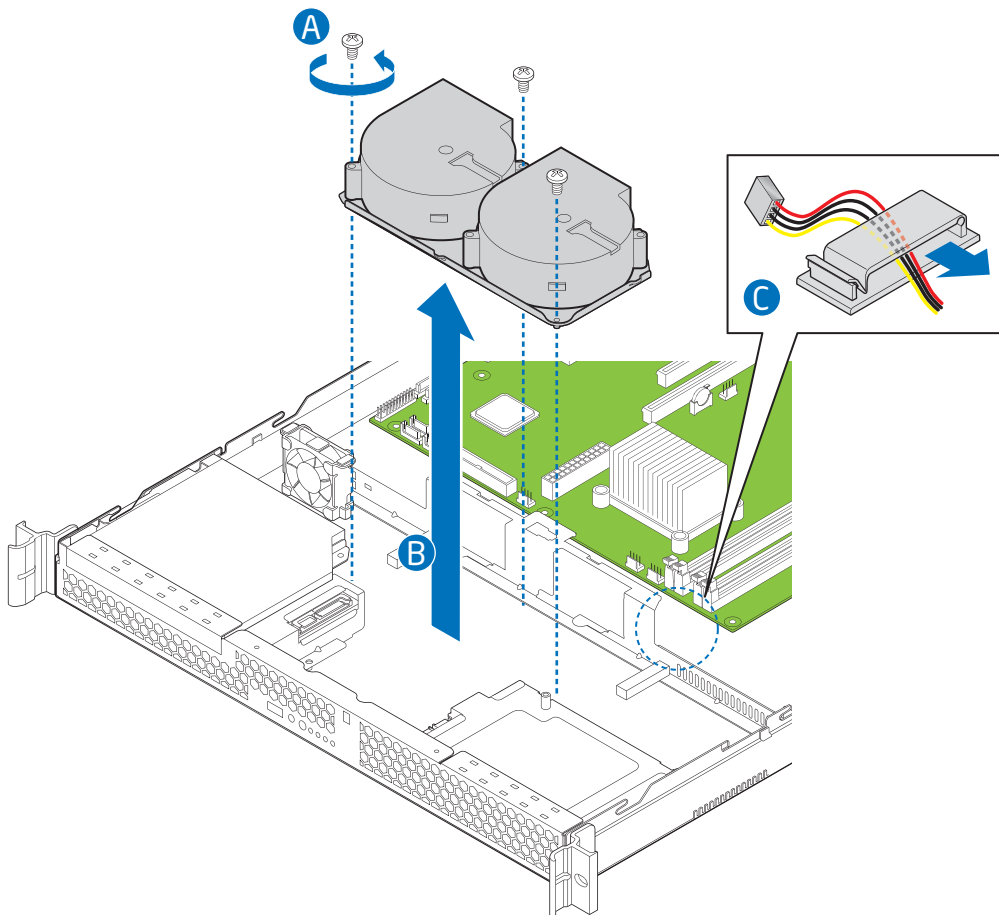

Figure 132: Removing Bracket and System Blower Fans
6. Remove the three screws that hold the fan bracket in place. Save these screws. You will re-install them later. See letter “A” in Figure 132.
7. Remove the fan cable from beneath the clip at the front of the fan bracket. See letter “B” in Figure 132.
- Lift the fan bracket from the server. Lift the bracket at an angle, front of the bracket first, to clear the hard disk drive brackets. See letter "C" in Figure 132.